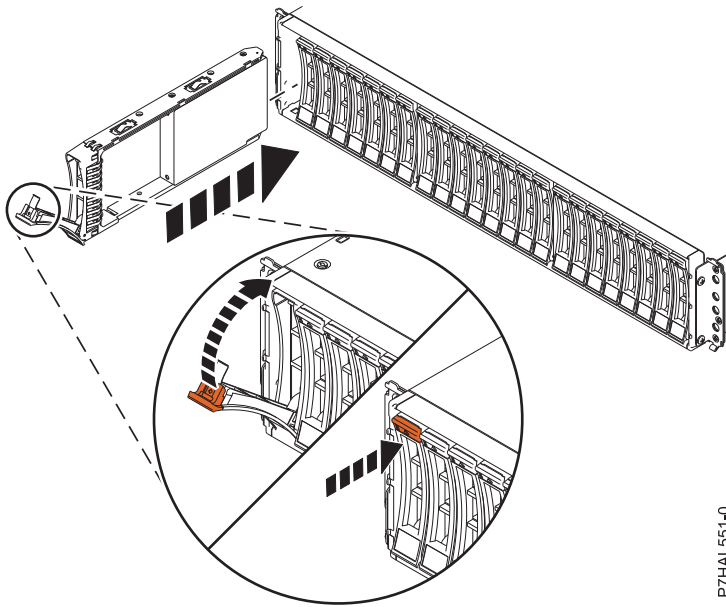

Figure 9. Installing the disk drive in the 5887 expansion unit
- With the handle in the unlocked position, see Figure 9 on page 24, support the bottom of the disk unit as you align it with the guide rails in the expansion unit. Do not hold the disk unit solely by the handle.